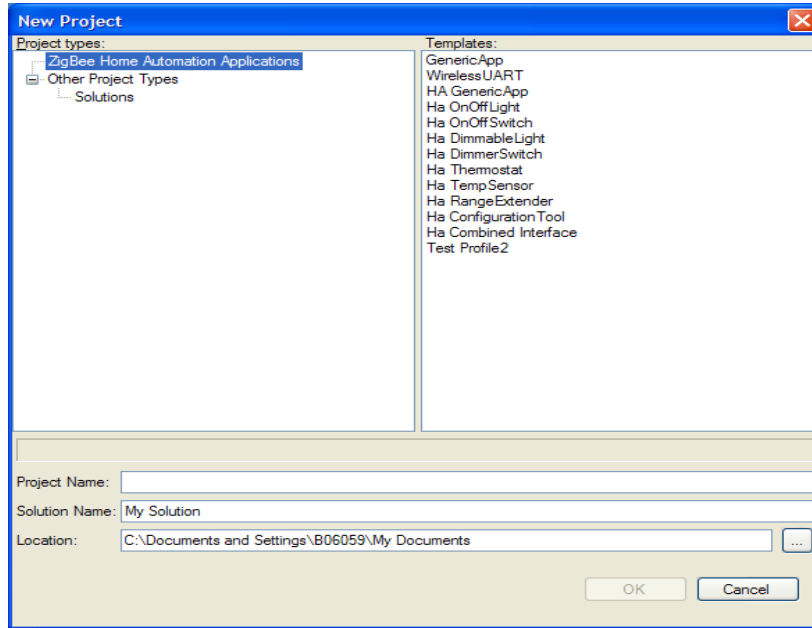

Figure 5-1. BeeKit New Project Window
3. From the menu, create a new project to configure a new device by selecting File -> New Project... The New Project window appears as shown in Figure 5-1.